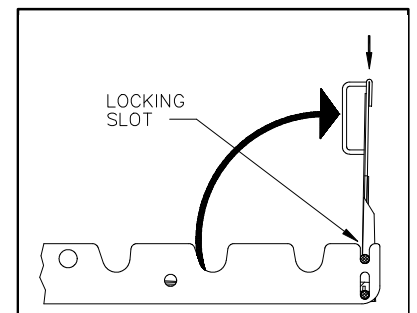

FIGURE 3-5: RAISE OUTER ROLLSTOP
- 5) Refer to **Figure 3-5**. Grasp roll-stop handle and raise outer roll-stop to vertical position. Drop it into locking slots, and then test rollstop to be certain it is locked in place.